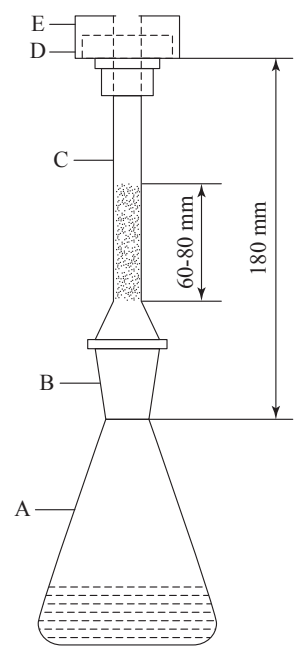

Figure 4 Apparatus for the test of arsenic (III) oxide in CMM samples
- (a) Transfer 2 mL of test solution to the flask (Fig. 4), add 5 mL of hydrochloric acid, 21 mL of water, 5 mL of potassium iodide solution (16.5%, w/v) and 5 drops of acidic tin (II) chloride solution. Allow the mixture to stand for about 10 min. Add 2.0 g of zinc granule and heat the mixture on a water bath at about 40°C for 45 min. Collect and examine the mercuric bromide test paper.
- (b) Transfer 2 mL of standard solution to the flask (Fig. 4), carry out the procedure as stated in (a). Collect and examine the mercuric bromide test paper. Less intense orange spot should be observed in (a) when compared to (b).